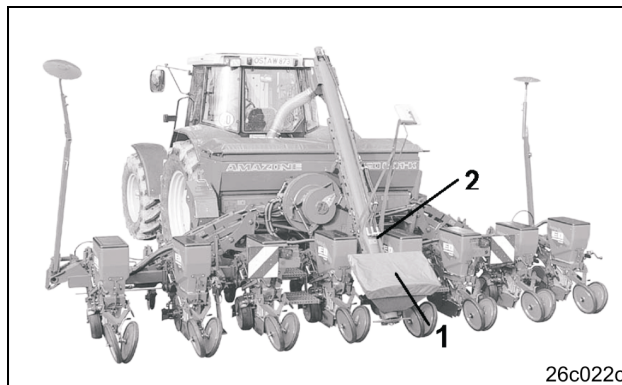

Fig. 155
- Remove the cover (Fig. 155/1) from the filling chute.
- Swivel the three-way block tap (Fig. 155/2) whereby the drive of the filling auger is switched on.
- Swivel the three-way block tap (Fig. 155/2) and thus switch off the drive of the filling auger.